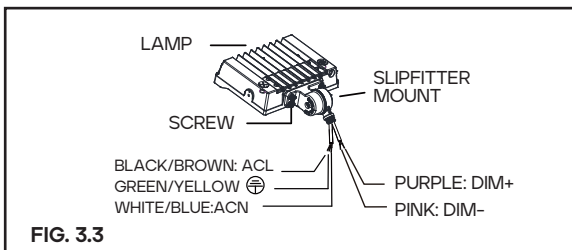

FIG. 3.3
STEP 2. Finish the wire connection according to the right mode of connection (pay attention to positive wire, negative wire, and ground wire), and then put the wire into lamp pole. **FIG. 3.3**